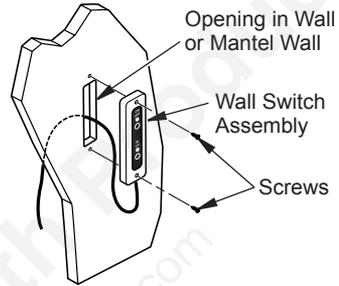

Figure 13 - Securing Wall Switch Assembly
- Position wall switch assembly vertically over wall openings with decal lettering upright (see Figure 13).
- Carefully pass wall switch assembly through rectangular opening from inside mantel (see Figure 13).